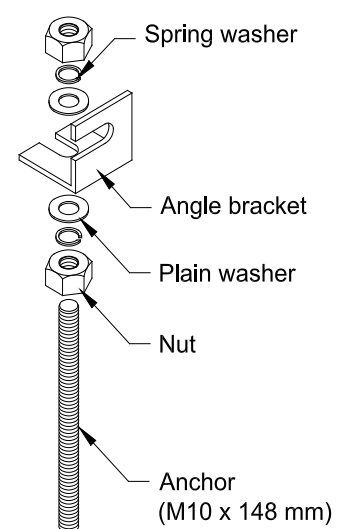

Figure 2
- 5 Fix the longer (148 mm) anchors (figure 2) of the mounting kits with suitable epoxy grout in these holes such that around 50 mm length of anchors project out of the surface after fixing. Follow epoxy manufacturer's recommendation for fixing all the anchors.